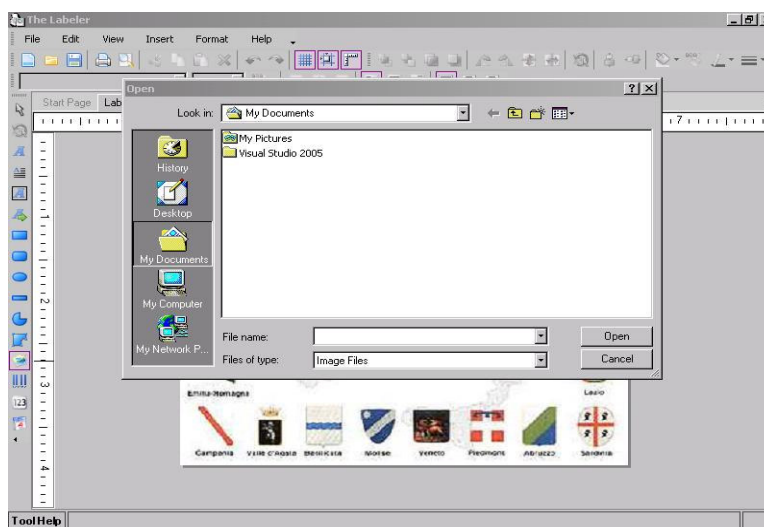

Figure 3.6.2.2: Open Screen
2. Click on an image you like to insert on to the label (see Figure 3.6.2.4).